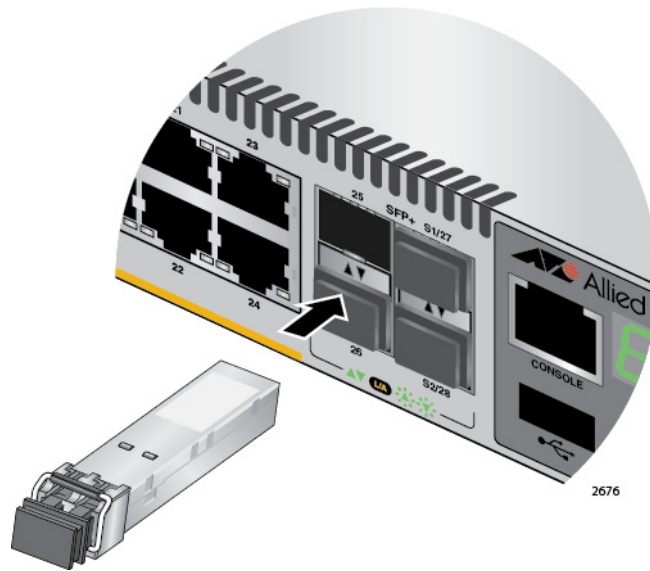

Figure 73. Installing an SFP or SFP+ Transceiver
4. Slide the transceiver into the slot until it clicks into place, as shown in Figure 73 on page 125.